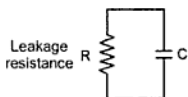

Fig. 2.14 Practical capacitor
In case of d.c. a practical capacitor is considered to be a charge storing device in parallel with a leakage resistance (R) as shown in the Fig. 2.14.